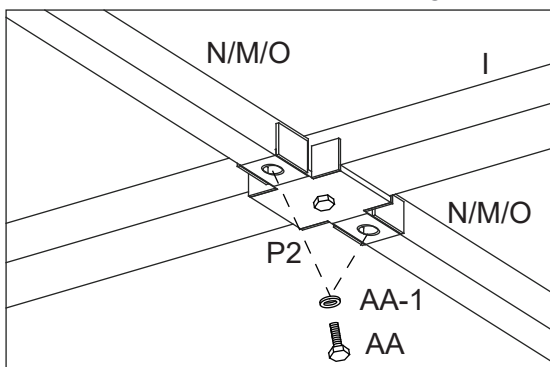

Figure 10-3
10.3: Attach the Horizontal Main Roof Supports (N, M and O) to the Connector (P2) using Bolts (AA) and washer (AA-1). See Figure 10-3.